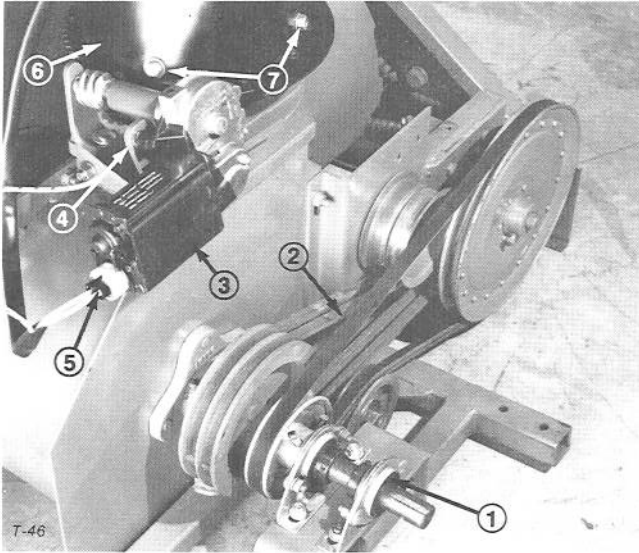

Figure 4
(Fig. 4). Install chute wire inside chute and secure to chute with two pushnuts.
2. Assemble jackshaft assembly to center frame. Do not tighten the mounting capscrews and flange nuts (Fig. 4). Install belt over the pulleys, lever jackshaft towards the left side of snowthrower and tighten jackshaft mounting fasteners (Fig. 4).
3. Remove top flange screw for chute drive motor, insert through eyelet of single wire on wire harness and re-install (Fig. 4).
4. Install female wire harness connectors onto spade terminals of motor (Fig. 4).